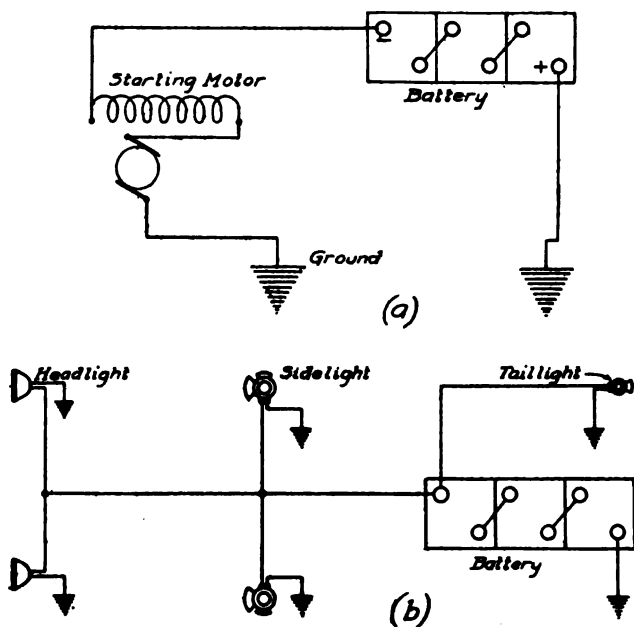

Fig. 1. Typical Starting-Lighting Wiring Diagrams. (a) Series Circuit of Starting Motor; (b) Multiple Circuit of Lamps
**Series Circuit.** The connections between a storage battery, switch, and starting motor, comprise the simplest form of circuit, in which the motor is said to be in series with the battery, and the cells of the battery are in series with one another. This is termed a series circuit and a break in it at any point opens the entire circuit. The starting motor, Fig. 1 (a), requires the entire output of the storage battery for its operation.
*Multiple or Shunt Circuit.* As opposed to this, in a multiple circuit, Fig. 1 (b), in which every piece of apparatus is connected to both sides of the circuit "in parallel", each piece of apparatus in the circuit receives current at the same voltage but draws from the circuit the current determined by its resistance. The failure or withdrawal of any one or more instruments in a multiple or parallel circuit has no effect on those remaining. The lighting circuits of an automobile equipped with a 6-volt starting system are an example of this. Each lamp is designed to burn to its maximum illumination at 6 volts, but the 25-candle-power headlights take more current than the 5-candle-power side lights or the 2-candle-power taillight, owing to the difference in the size and resistance of their filaments. Removing any one of the bulbs has no effect on any of the others, because all are in parallel.